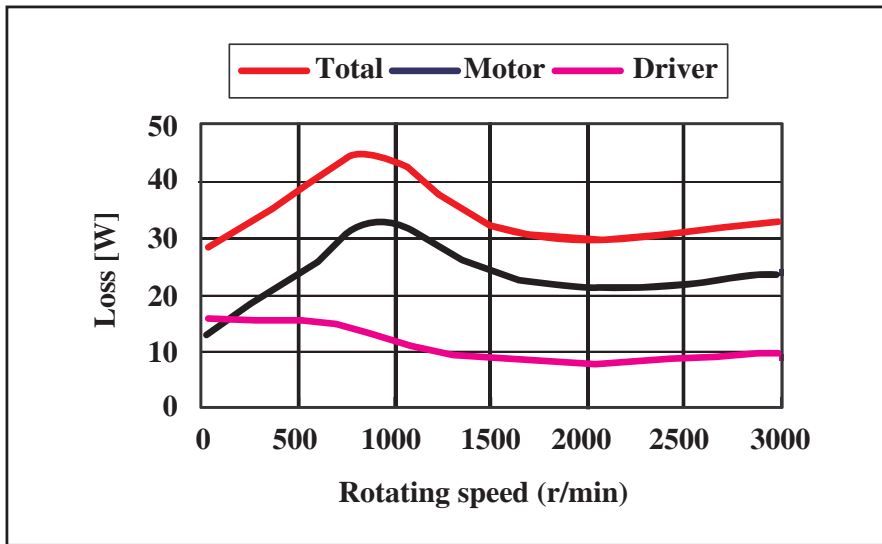
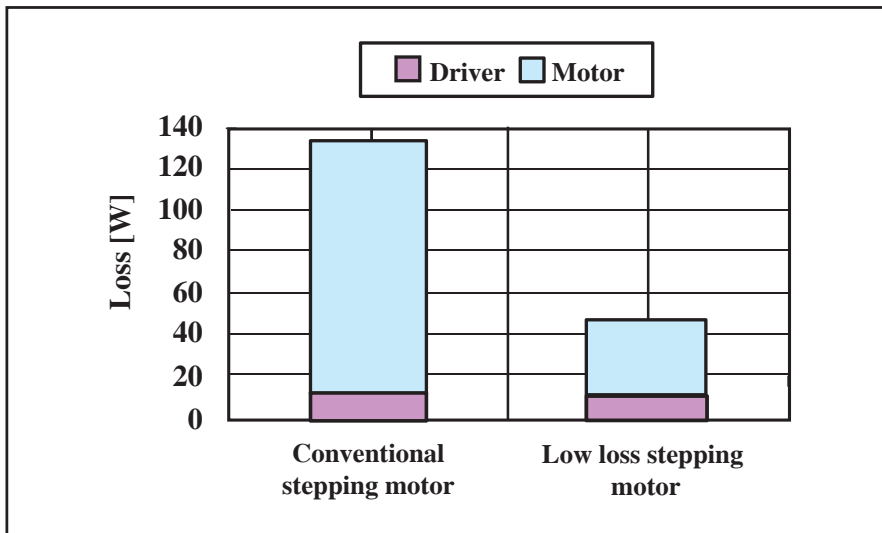

Figure 10—No-load loss of low-loss stepping motor.
Figure 11—Comparison in loss.
**Practical example.** Figure 10 shows the no-load loss of a low-loss stepping motor and driver. Figure 11 shows the loss comparison with the conventional stepping motor at the rotational speed where the total loss reaches its maximum value. The motor loss has decreased by 73%, and the driver loss